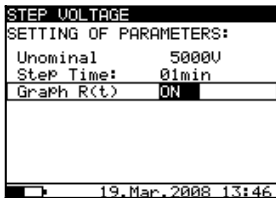

Fig. 24 Set-up menu in Step Voltage measurement
- Press the SELECT key, Set-up menu appears on display, see the *Fig. 24*.